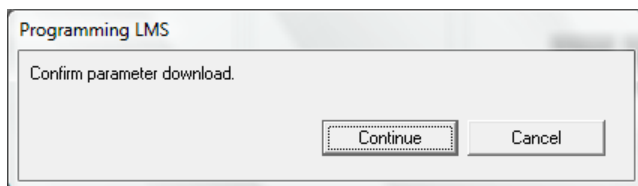

Figure 1. Confirm parameter download.
8. A message box allows you to click on the *Cancel* button to stop the download sequence if you would like to do so. If you want to continue the download sequence, click on the *Continue* button, see Figure 1.